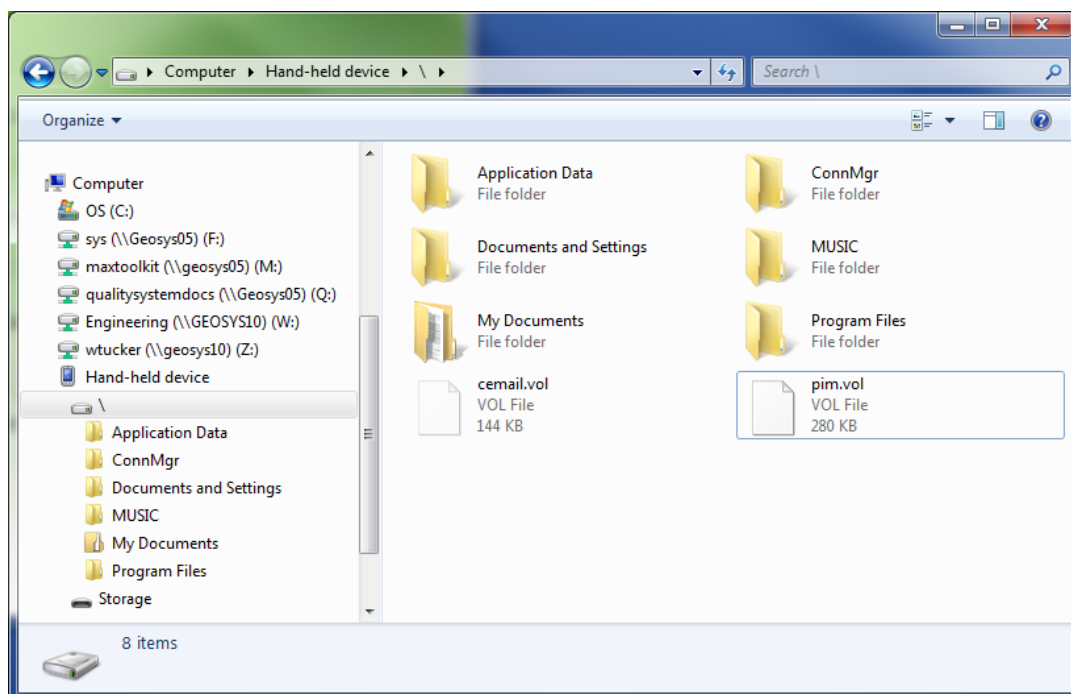

Figure 19 - Handheld Device Root Folder Contents
- 2) In the Explorer Window, double-click the icon labeled “\” to navigate to the handheld PC’s system root shown in Figure 19.